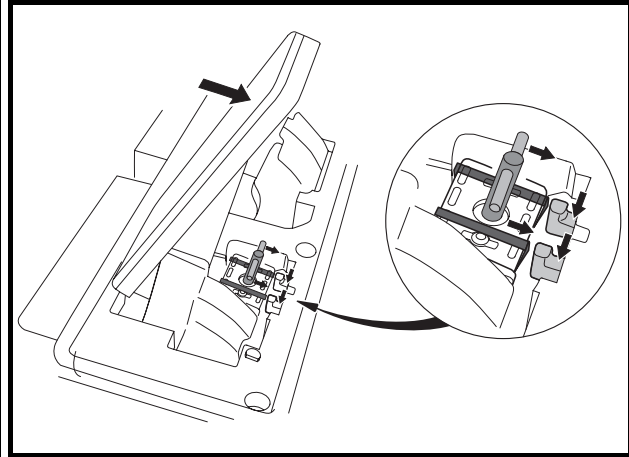

Figure 5-6 Accelerator Spring Upper Crosspin
5. Position the upper corsspin in the tab on the pedal group.(**Figure 5-6, Page 5-6**)